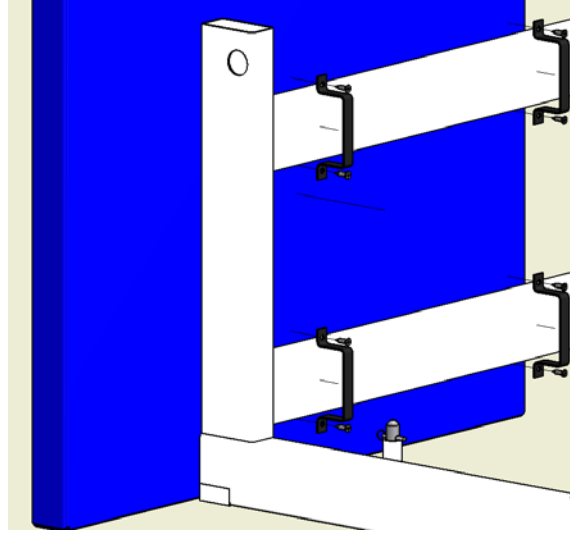

Figure 9-13: Fasten front pad with U-Clips for PBEL54.
- b. Fasten front pad to base frame using two U-Clips along the top horizontal 2x4 and two U-Clips along the bottom horizontal 2x4 (Figure 9-13).